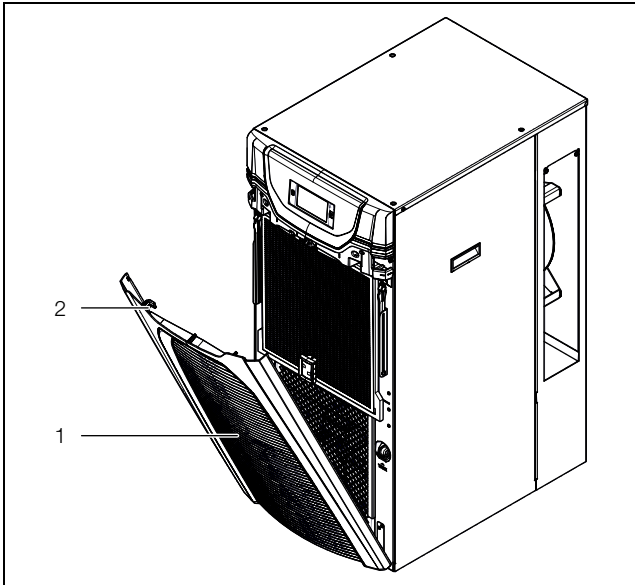

Fig. 18: Flip open the louvred grille 3334400
- Open the louvred grille below the infill panel by flipping forwards (fig. 18, item 1).